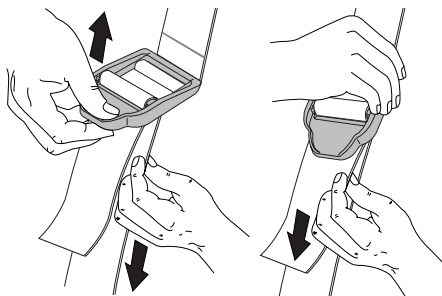

Fig. 7
4. Adjust length to fit the operator's size. Pull tab to lengthen, pull strap to shorten (Fig 7).